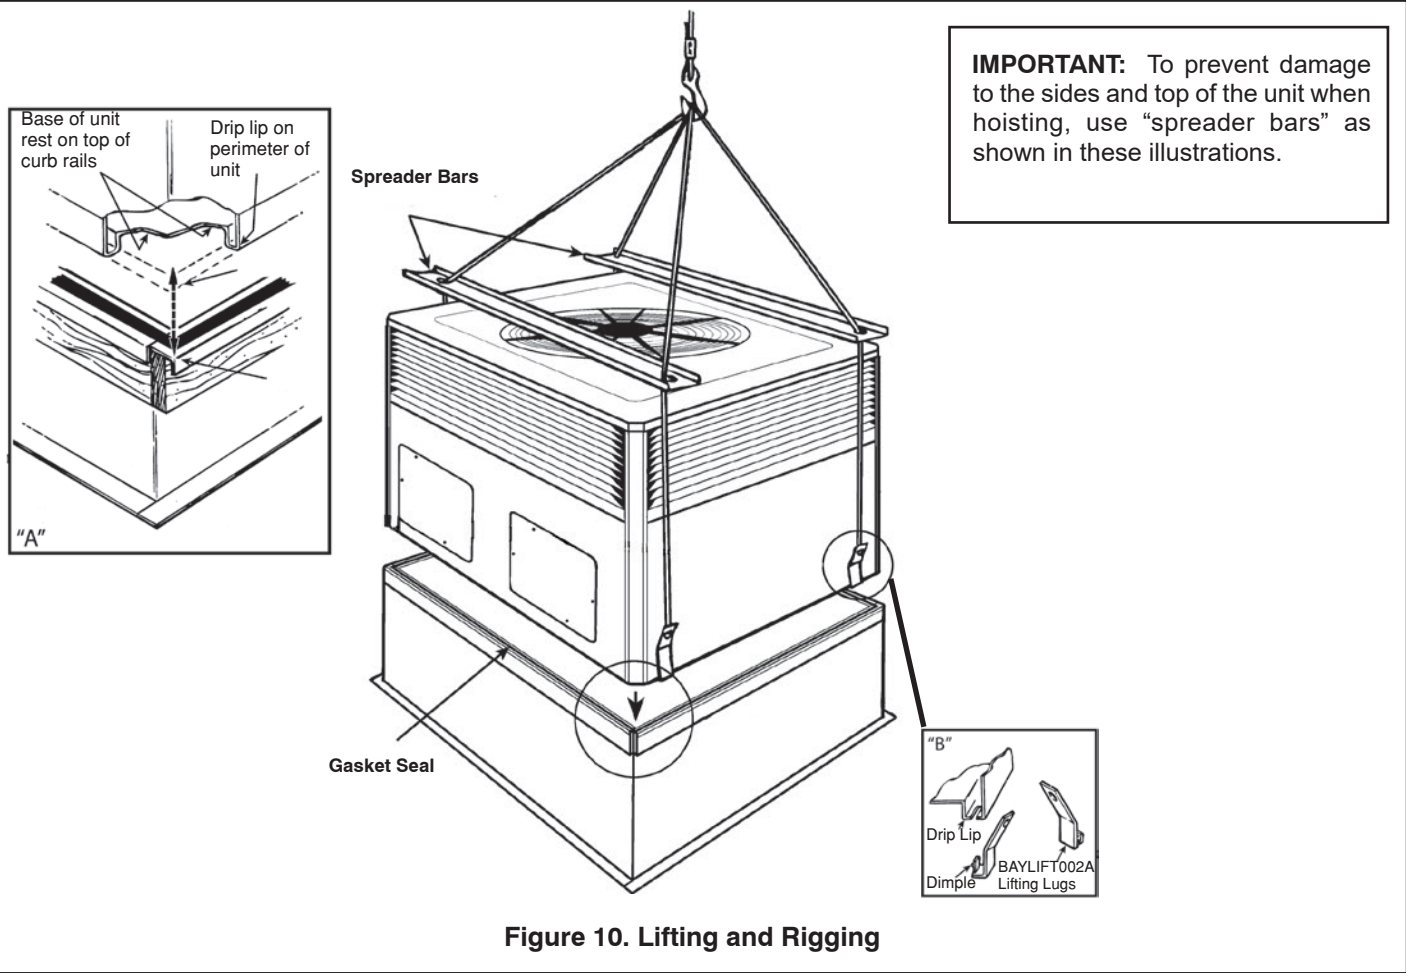

Figure 10. Lifting and Rigging
NOTE: When unit rigging and hoisting it is recommended that accessory kit BAYLIFT002B be used. It includes a kit of four (4) lifting lugs. See Figure 10 inset B, on page 14.
2. Insert the four lifting lugs in the openings provided in the drip lip on each end of the unit. See Figure 10 inset B on page 14. A tap or jerk to the lug will overcome the interference that arises due to the dimple on the lug.
1. The unit is designed with a perimeter drip lip that is lower than the unit base pan, see Figure 10, inset A, on page 14.
2. Position the unit drip lip down over and in contact with the outside corner of the curb, as illustrated in Figure 10, inset A, on page 14. Continue to lower the unit on top of the curb, with the unit drip lip astraddle, and in contact with, both the end and side rail of the curb. The unit should now rest on top of the curb. Use the extreme mounting kit, BAYEXMK001A, to add additional hold down strength to the mounting.